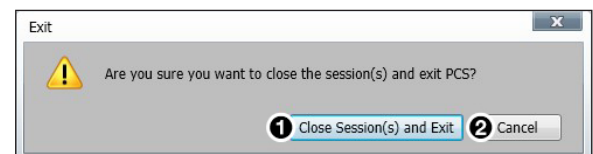

Figure 16. Exit Dialog Box
1. From the Software list, select **Exit**. If device tabs are open, the Exit dialog box opens (see figure 16).
2. Click the **Close Session(s) and Exit** button (①) to disconnect the software from connected devices, close all offline device tabs, and close the software.